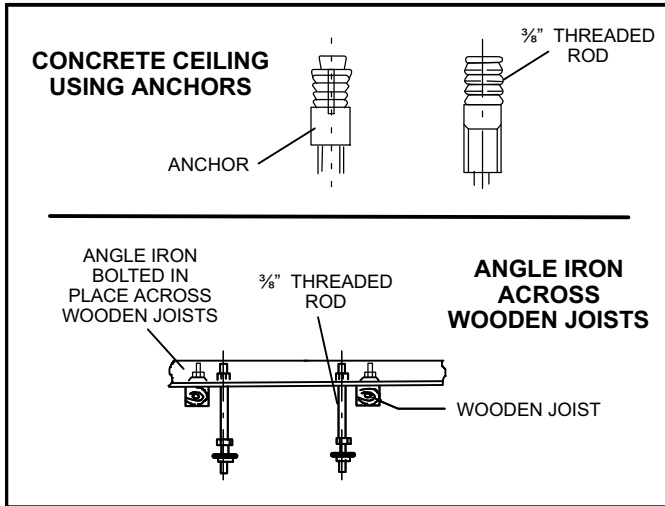

Figure 2. Suspending Methods
install anchors to accept four 3/8" threaded rods to suspend the indoor unit. If the structural ceiling includes wooden joists, use angle iron or Unistrut channel fixed securely in place to accept the 3/8" threaded rods. See figure 2.
- 3 - Slide one nut and one washer onto each threaded rod. Use electrical tape to keep the washer from falling off. Position the nuts slightly above the final resting place of the four suspension brackets. See figure 2.